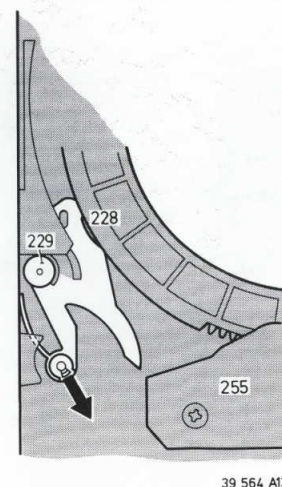

Fig. 3-1-9
- Unlock the hinged lever, lift it slightly up, swing it toward the right and remove it. See Fig. 3-1-9.